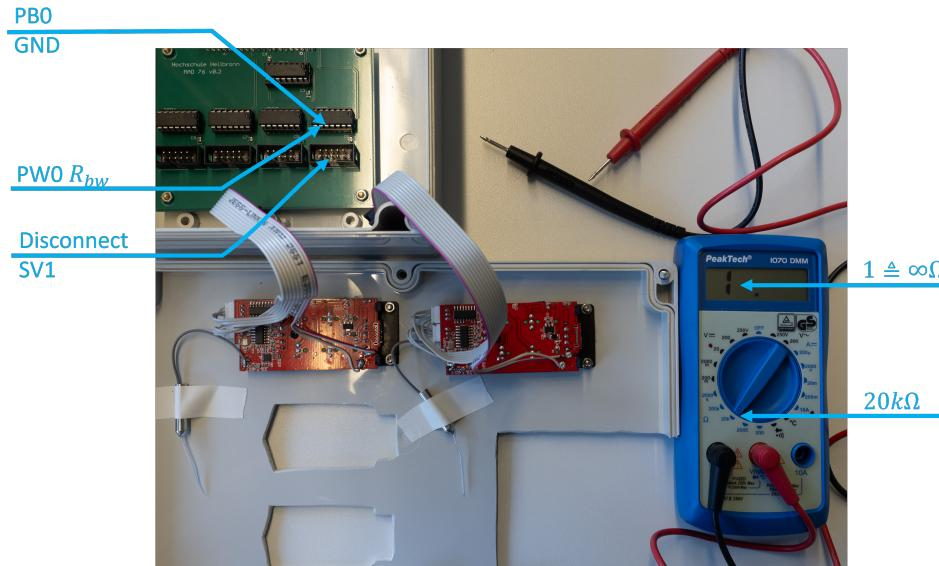

Figure 4: Exercise 1: Measure  $R_{bw}$  with a multimeter
1. Measure the resistance values  $R_{bw}$  of the digital potis of RC 1 with a multimeter (see Figure 4)